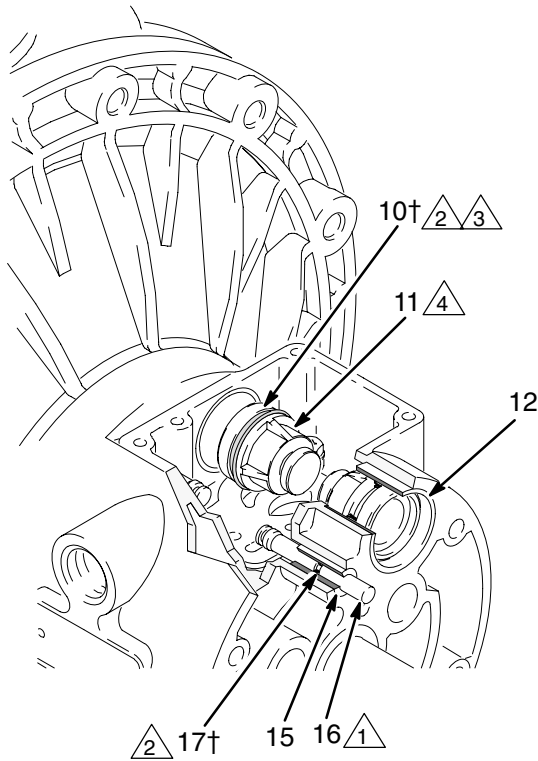

Fig. 9
4. Pull the two actuator pistons (11) out of the bearings (12). Remove the u-cup packings (10) from the pistons. Pull the pilot pins (16) out of the bearings (15). Remove the o-rings (17) from the pilot pins. See Fig. 9.
6. Inspect the bearings (12, 15) in place. See Fig. 9. The bearings are tapered and, if damaged, must be removed from the outside. This requires disassembly of the fluid section. See page 20.
4. Install an o-ring (17†) on each pilot pin (16). Grease the pins and o-rings. Insert the pins into the bearings (15), **narrow** end first. See Fig. 9.
5. Install a u-cup packing (10†) on each actuator piston (11), so the lips of the packings face the **narrow** end of the pistons. See Fig. 9.
6. Lubricate the u-cup packings (10†) and actuator pistons (11). Insert the actuator pistons in the bearings (12), **wide** end first. Leave the narrow end of the pistons exposed. See Fig. 9.